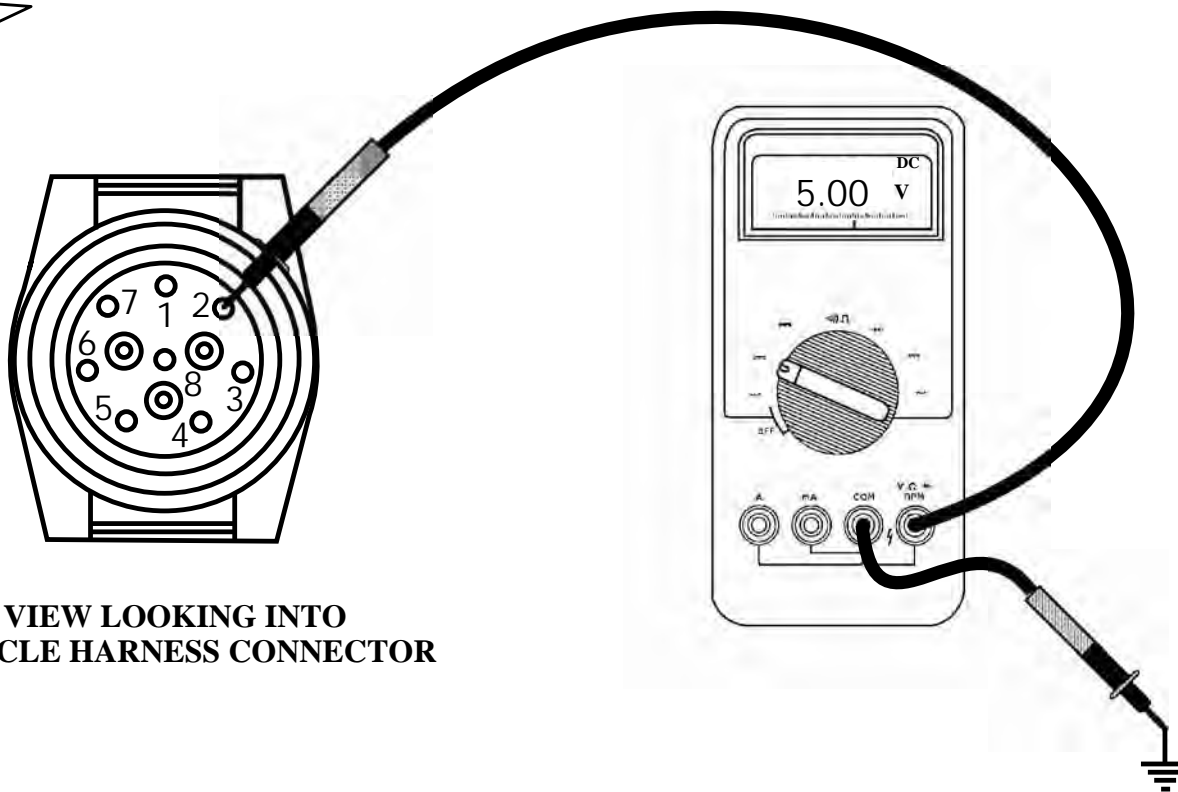

Figure 11
- (d) Plug the transmission control module connector back into the computer, and with the engine off and ignition switch in the ON position, check for 5 volts at cavity number 2 in the vehicle harness connector, as shown in Figure 11. If no voltage is seen, unplug the transmission control module connector and test for continuity between cavity C10 at the transmission control module connector and terminal number 2 at the vehicle harness connector, as shown in Figure 12. If 5 ohms or less is indicated, the computer will need to be replaced. If an open circuit is indicated, repair or replace the broken wire between C10 and terminal 2. **Note: For 1996 and later models, see Page 120.**